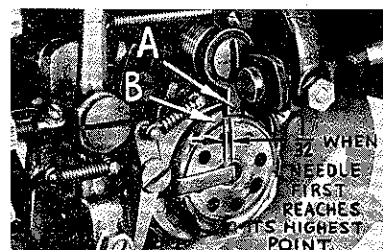

Fig. 8
The bobbin case release is timed correctly if there is a  $\frac{1}{32}$  inch clearance between the release lever (A, Fig. 8) and bobbin case (B), when the release lever has traveled its full stroke to the left and the backlash in the hook has been taken up to the left. To adjust the opener, turn handwheel in operating direction until the release lever has traveled its full stroke to the left. Loosen screw (A, Fig. 9) in bobbin case release lever and turn opener to obtain the  $\frac{1}{32}$  inch clearance. Tighten screw.